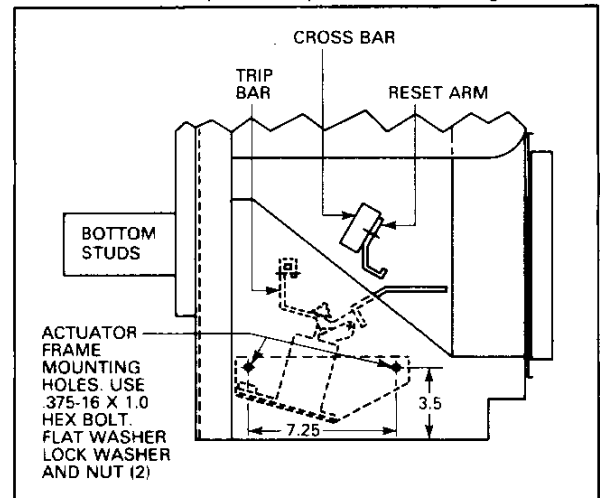

Fig. 6. Left Side View
1. Viewing the breaker from the left side, position and assemble trip paddle on breaker trip bar using .25-20 x .75 carriage bolt, trip bar finger, washer and nut. **Do not tighten this assembly.** See Fig. 6.
3. Locate the two (2) .50 holes on the left side of the breaker frame, see Fig. 6. Attach the actuator base to the left side using .375-16 x 1.0 hex bolt, lockwasher, flat washer and nut. The two (2) actuator leads should be located between the left inside frame and the actuator housing.
4. Move the trip paddle assembly so that the paddle is located under the left side of the flange nut (viewing from the front) and secure the trip assembly to the bar. See Fig. 6.